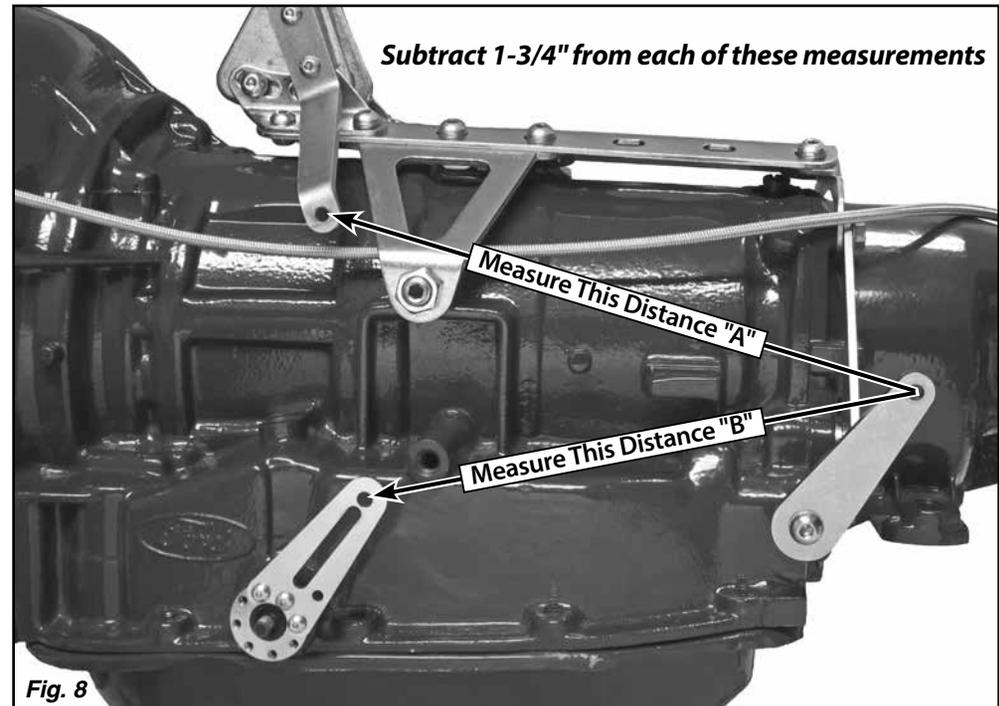

Fig. 8
**Step 7:** Measure the distance from the center of the 1/4" hole in the linkage arm to the center of the 1/4" hole in the quad lever on the shifter (Fig. 8 distance "A"). Subtract 1-3/4" from your measurement and write it down.
Next, measure the distance from the 1/4" hole in the linkage arm to the 1/4" hole in the trans arm on the selector shaft (Fig. 8 distance "B"). Subtract 1-3/4" from your measurement and write it down.